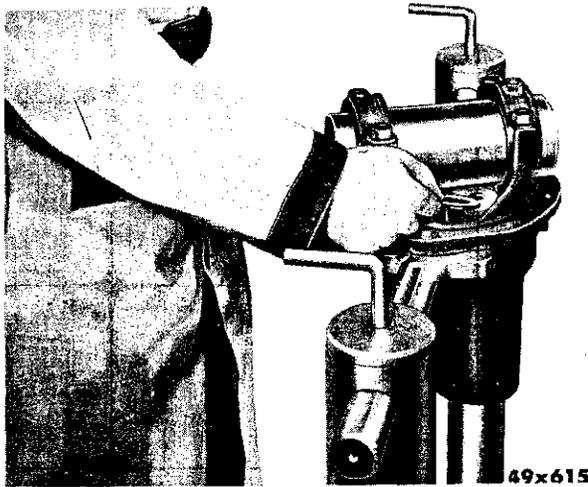

Fig. 22—Determining Spacer Washer Thickness
(3) Select the “gauge washer” that will fit between the tool gauge block and arbor (Fig. 22). The fit must be snug but not too tight (similar to the pull of a feeler gauge). This washer is used only for determining the correct thickness washer to be used for installation.
(4) To select the proper washer for installation, read the marking on the end of the pinion (—0, —1, —2, +1, +2, etc.) When the marking is —(minus), add that amount to the thickness of the “gauge washer” selected in step 3. When the Marking is + (plus), subtract that amount. Example: With a “gauge washer” .086 inch thick and a pinion marked —2, install spacer washer .088 inch thick (.086 + .002 = .088). Example: With a “gauge washer” .086 inch thick and a pinion marked +2, install a spacer washer .084 inch thick, (.086 — .002 = .084) or when a “gauge washer” .086 inch thick is too loose and the .088 inch is too tight, use a .086 inch spacer washer.
- (5) Remove the tool arbor from the carrier.
- (6) Remove the tool and bearings out of the carrier.
- (7) Remove the shims, spacer, tool sleeve, and rear bearing cone from the tool main screw.